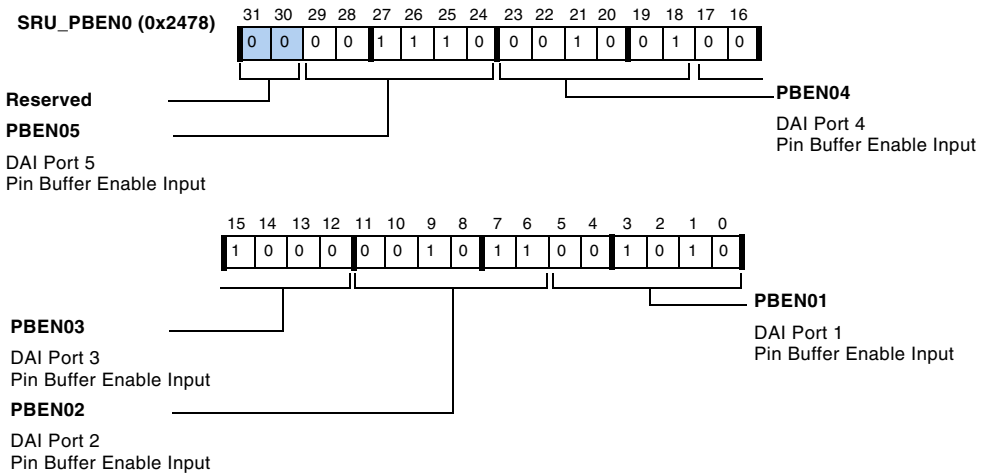

Figure A-52. SRU\_PBEN0
- SRU\_PBEN0, described in Figure A-52